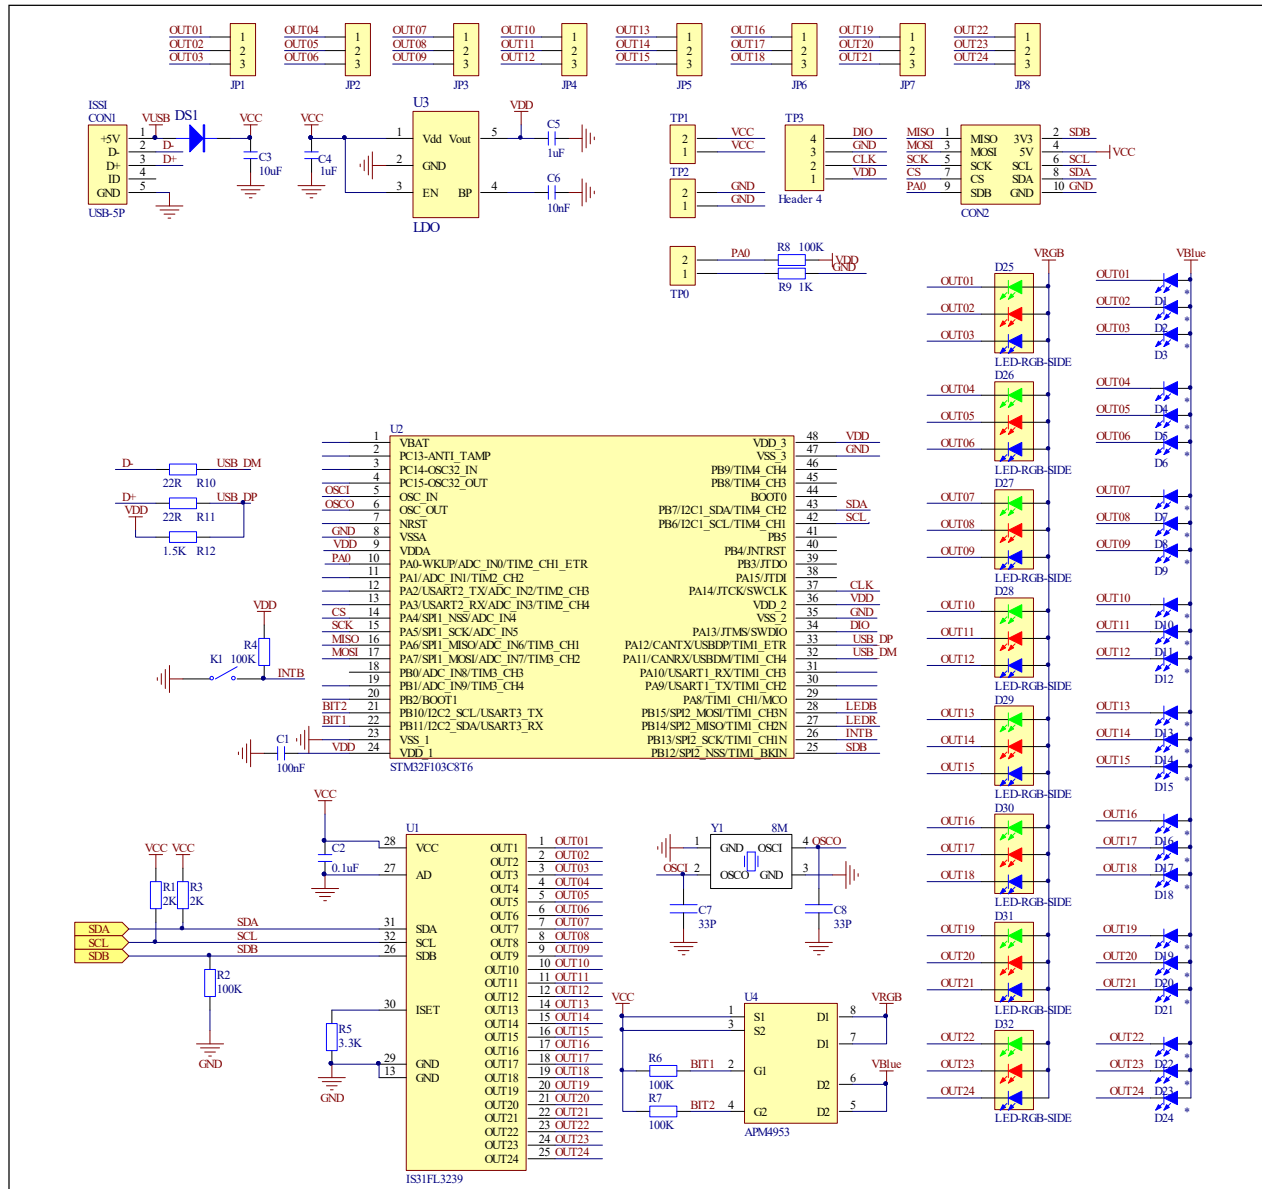

Figure 3: IS31FL3239 Application Schematic
*Bill of Materials, refer to Figure 3 above.*